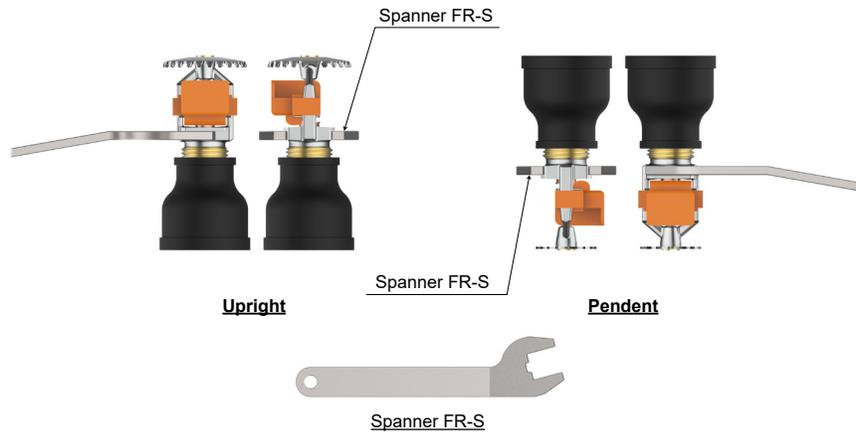

Figure 5: Installation (Spanner)
Step 3: Using the Spanner FR-S, tighten the sprinkler into the sprinkler fitting with a torque of 7 to 14 ft-lbs (9.5 to 19.0 N-m). (Ref. Figure 5)
Step 3: Using the Socket FR-H (or FR-H II) or Spanner FR-S, tighten the sprinkler into the sprinkler fitting with a torque of 7 to 14 ft-lbs (9.5 to 19.0 N-m). (Ref. Figures 5 and 7)